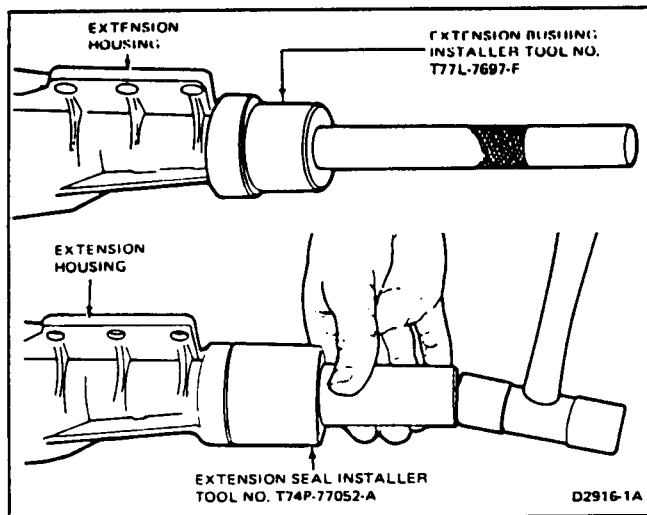

FIG. 12 Extension Housing Bushing and Seal Installation
5. Install the new extension housing bushing using Extension Housing Bushing Remover T77L-7697-F or equivalent (Fig. 12).
8. Install the new oil seal using Extension Housing Seal Replacer T74P-77052-A or equivalent. Coat the inside diameter at the end of the rubber boot portion of the seal with Multi-Purpose Long-Life Lubricant C1AZ-19590-B, or equivalent lubricant. Coat the front U-joint spline with Multi-Purpose Long-Life Lubricant C1AZ-19590-B lubricant or equivalent (Fig. 12).